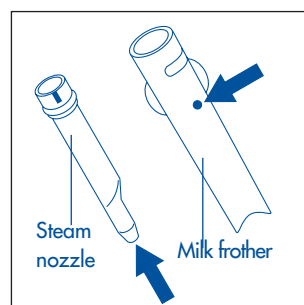

Fig.27
- Check that the two holes indicated by the arrows in Fig. 27 are not clogged. If necessary, clean them using a needle or pin.